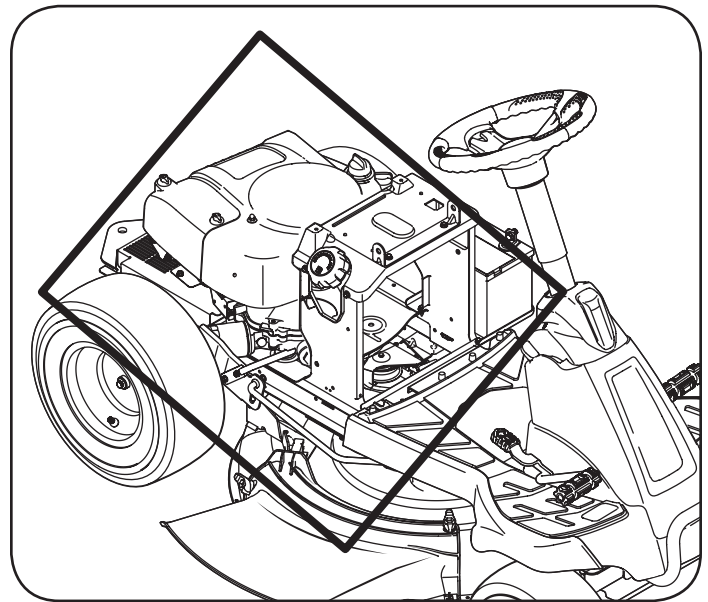

Figure 2
- Clean under the hood. Exhaust manifold, around fuses, all wiring and harnesses, muffler pipe, muffler shield, engine intake screens and cooling fins, etc. See "Figure 2".